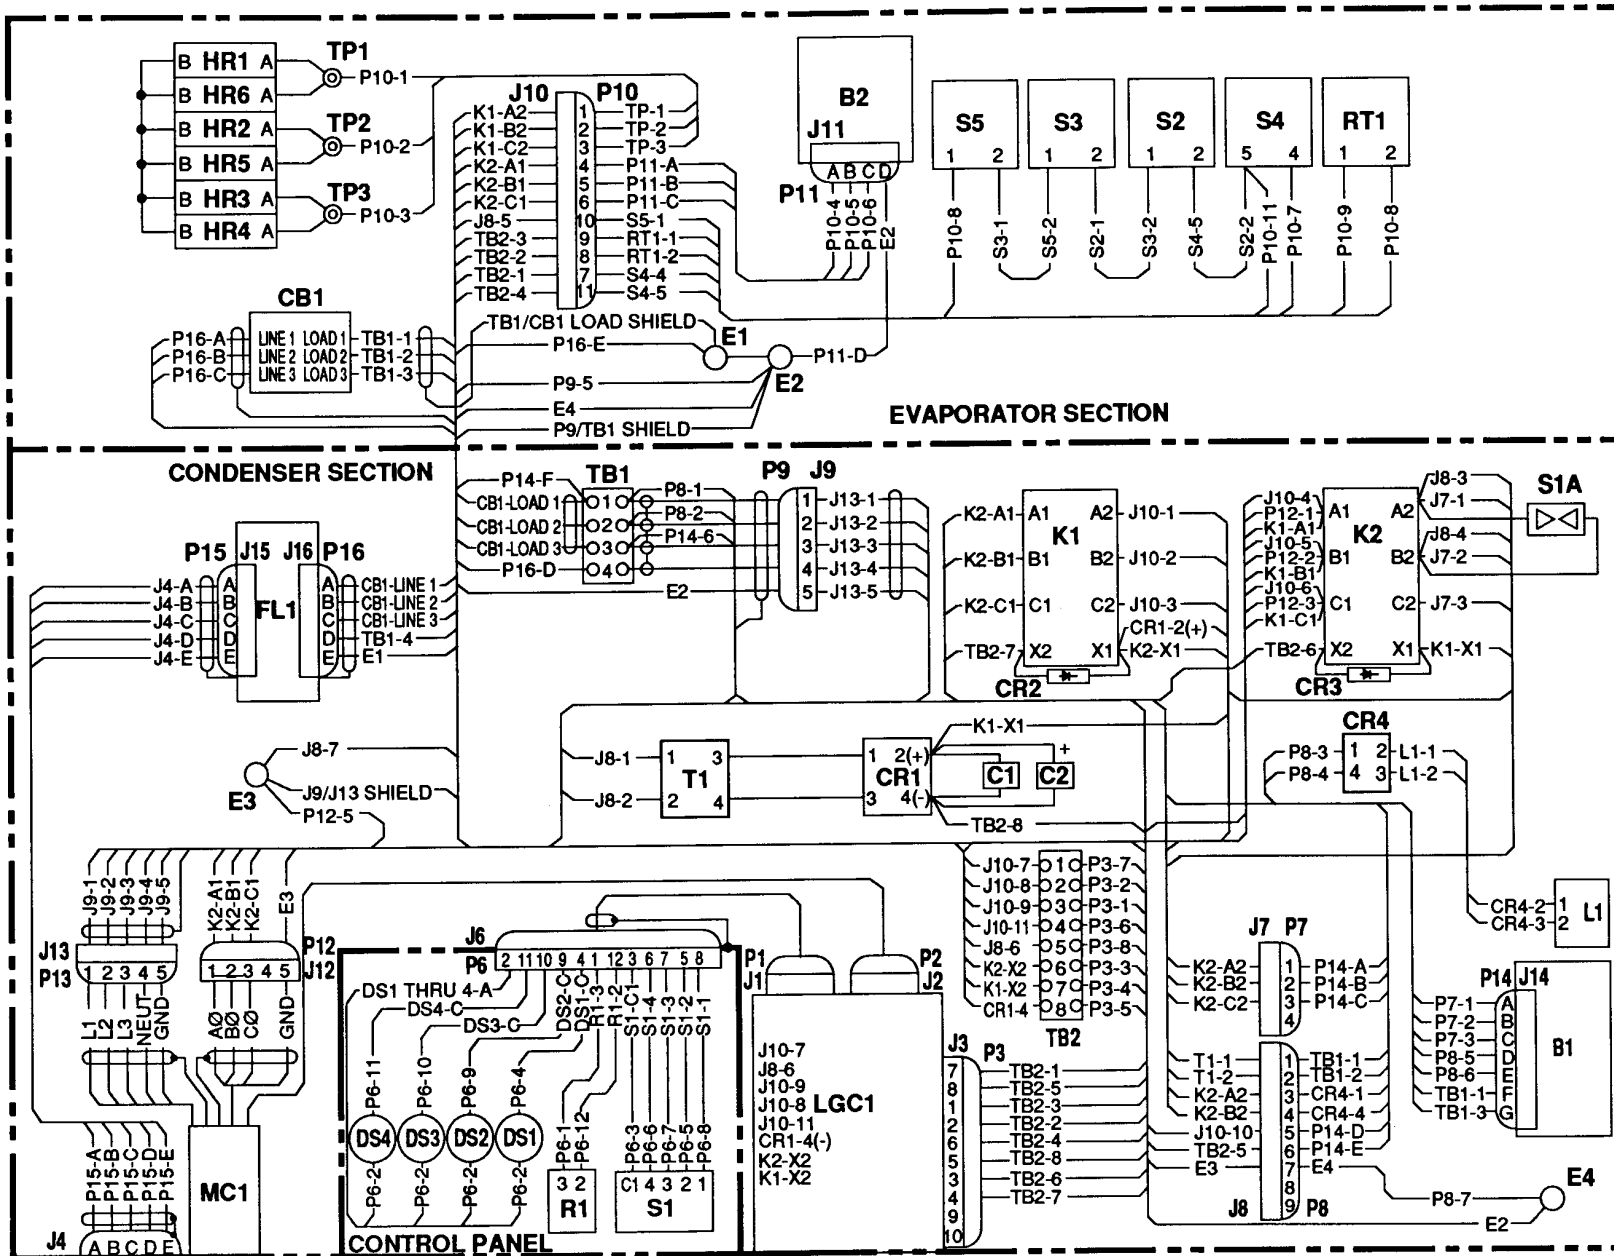

Figure 4-10. Wiring Diagram (Sheet 1 of 2)
(9) See air conditioner wiring diagram, figure 4-10, and electrical schematic, figure 4-11, for additional wiring information.